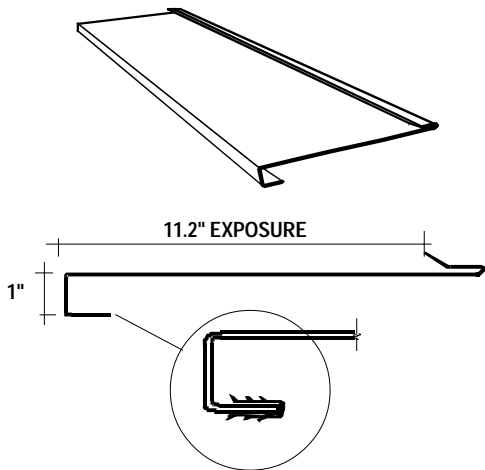

Fig. 1 THE BERMUDA ROOF PANEL IS FORMED ON THE MODEL BP-14 PORTABLE ROLL FORMER
THE BERRIDGE MODEL BP-14 PORTABLE ROLL FORMER is a precision-manufactured machine designed to provide high quality "Jobsite" production capability for installers of the BERRIDGE BERMUDA ROOF PANEL (Fig. 1).
1. As soon as the first end of each Bermuda panel emerges from the rollformer and clears the vinyl applicator wheel at the exit end of the machine, the vinyl weatherseal strip must be folded over the corner of the panel (Fig. 1). This causes the metal to "bite" into the vinyl and hold it in place so that it does not creep back as the panel is being formed.
(Fig. 1) The vinyl must first be folded down over the panel to hold it in place so that it does not creep back as the panel is being formed.